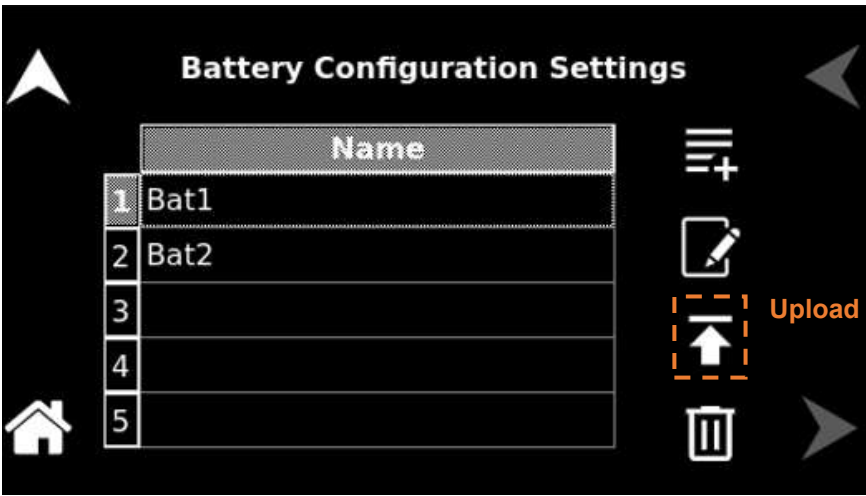

Figure 13-22. BATSIM Configuration Settings - Upload option
- Load the selected Battery Configuration by clicking the ‘Upload’ option. Refer to Figure 13-22.